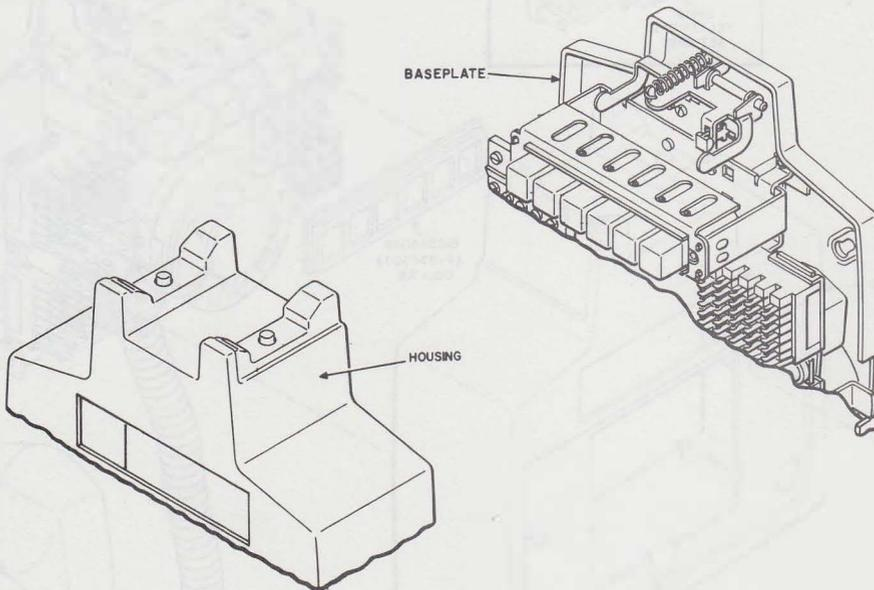
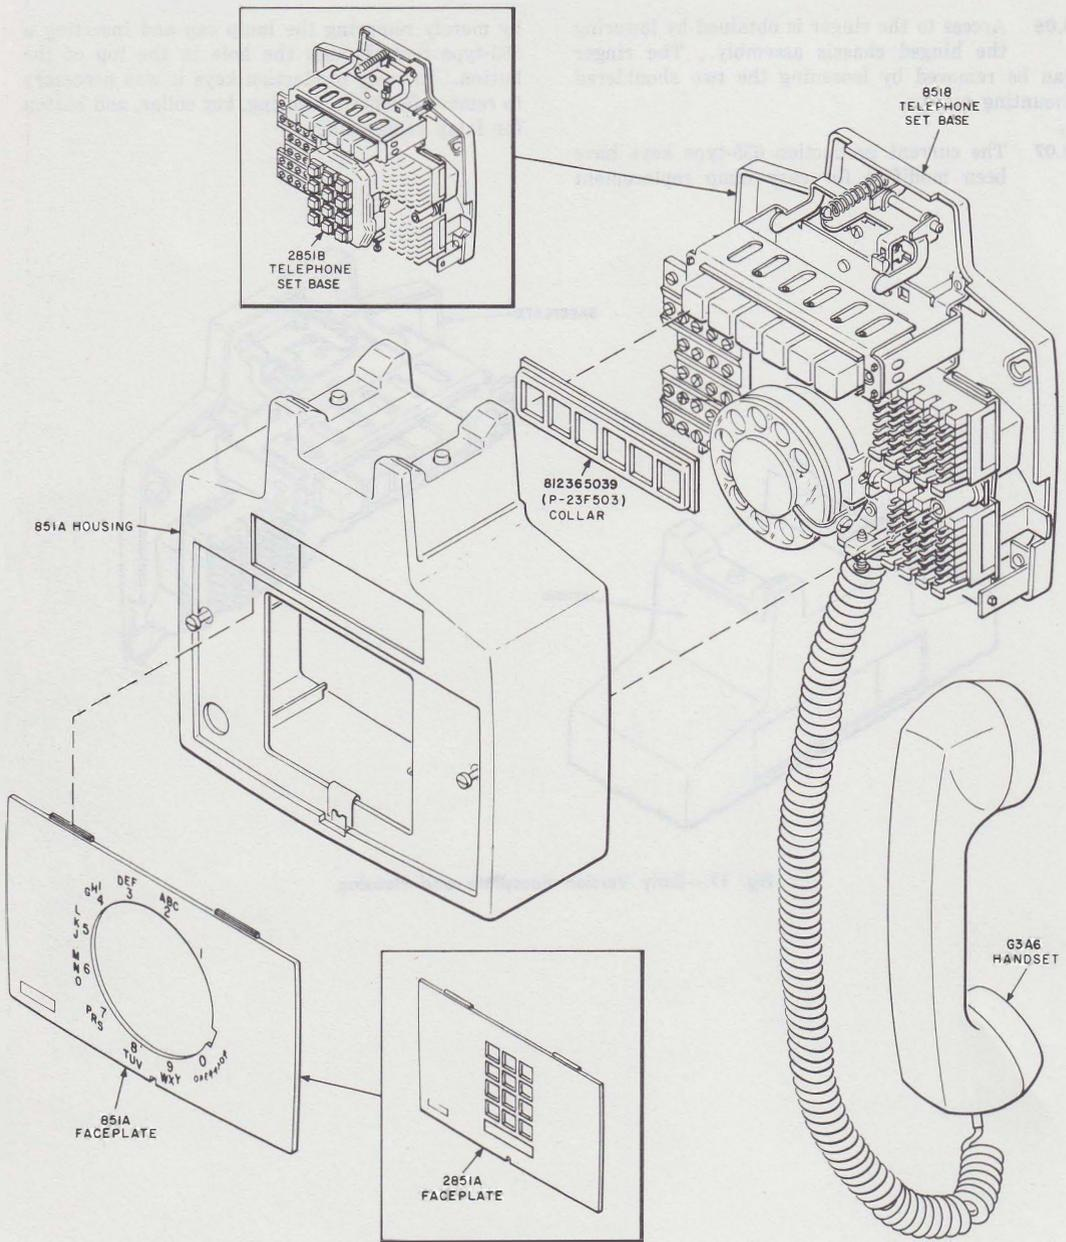

Fig. 17—Early Version Baseplate and Housing
Fig. 18—Station Arrangement, 851BT and 2851BT Telephone Set Showing Current 851A Housing and Base Plate
**5.05** For field replacement of 851A housing—early version of housing (Fig. 17) can be used with sets equipped with either the early or current baseplate (Fig. 18, 19, and 20). The current housing (Fig. 18 or 19) can be used with the current baseplate only.